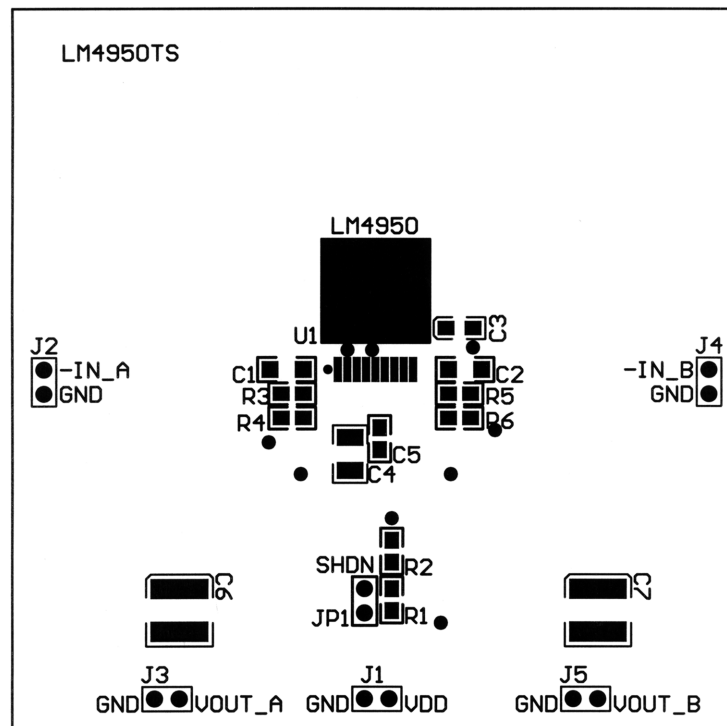
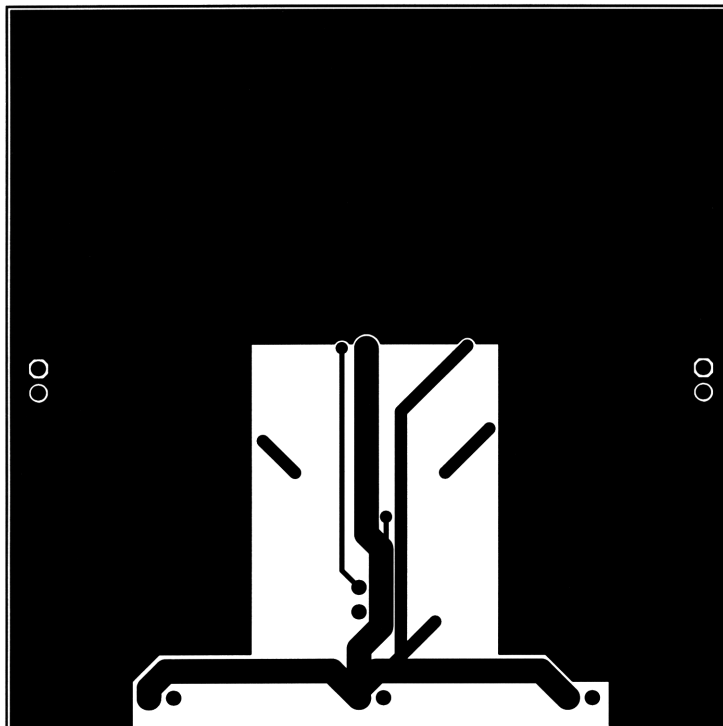
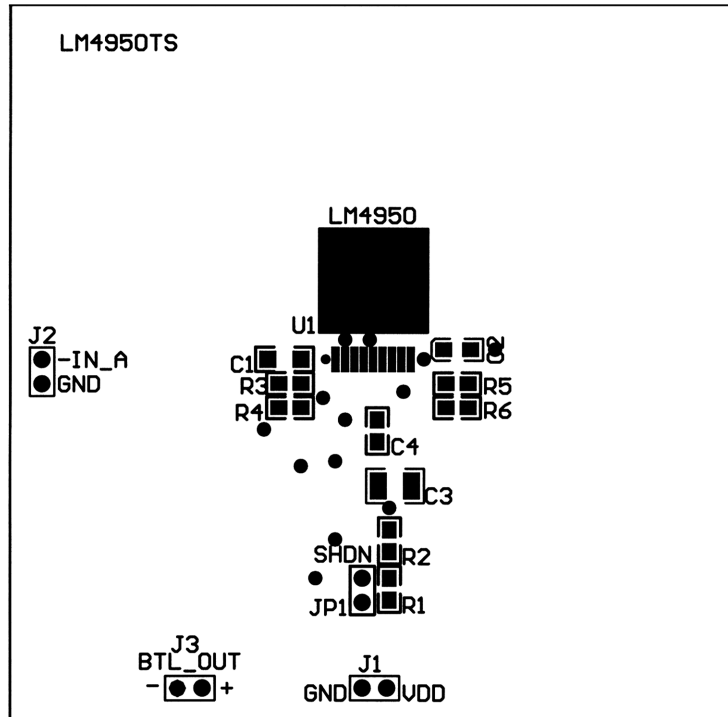

Figure 67. Recommended KTW SE PCB Layout:
Figure 69. Recommended KTW SE PCB Layout:
Figure 70. Recommended KTW BTL PCB Layout:
Figure 67 through Figure 69 show the recommended two-layer PC board layout that is optimized for the DDPAK-packaged, SE-configured LM4950 and associated external components. Figure 70 through Figure 72 show the recommended two-layer PC board layout that is optimized for the DDPAK-packaged, BTL-configured LM4950 and associated external components. These circuits are designed for use with an external 12V supply and 4Ω(min)(SE) or 8Ω(min)(BTL) speakers.